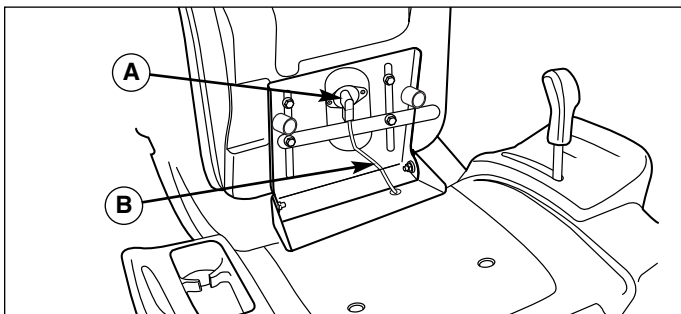

Figure 4. Seat Switch
Check that the seat switch (A, Figure 4) is connected to the seat switch wire harness (B).